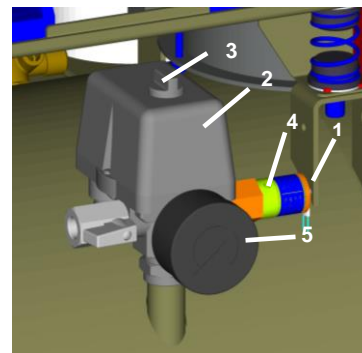
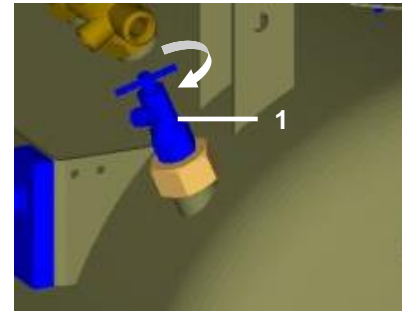

Fig.8
Fig.9
(Fig.8)
Compressors (Fig.9)
If the compressor will not be used for a prolonged time period, drain any condensate from the air tank. Then turn on the compressor for 10 minutes, keeping the drain valve open (1) (Fig.9). Switch off the compressor by switch (3) at pressure switch (2) (Fig.8), close the drain valve and disconnect the appliance from the mains.
- Release air pressure in the pressure tank by opening the drain valve (1) (Fig.9).